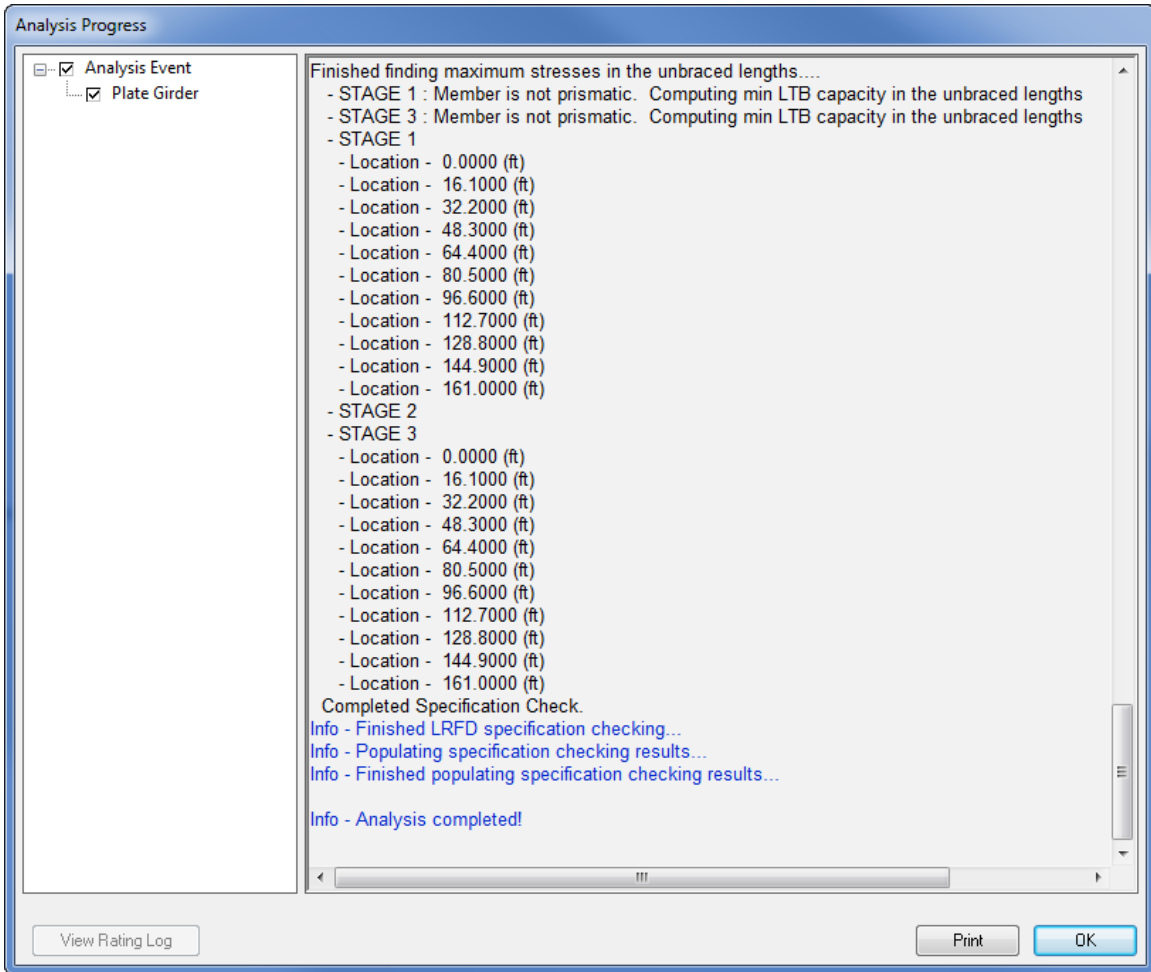

Fig 9. Analysis Progress Window
Select member alternative “Plate Girder (E)(C)” on G1. Click on Analyze Button on toolbar (Fig 8) to run analysis. Once Analyze button is clicked Analysis Progress window pops up (Fig 9). After analysis is completed click on “OK” button to close Analysis Progress window.